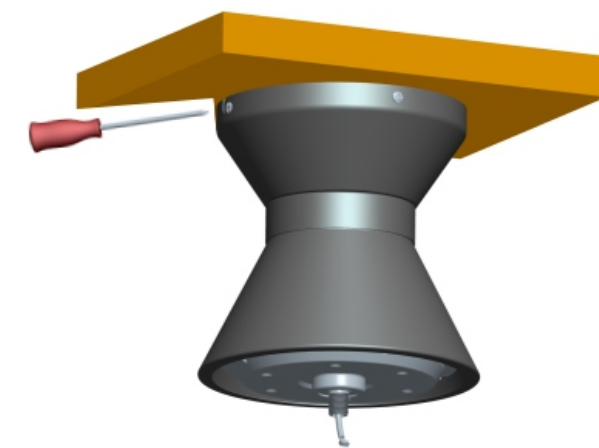

Fig 2.3
- 2.3 Secure the motor assembly to the mounting bracket by the screws that are taken out previously as shown in Fig 2.3.